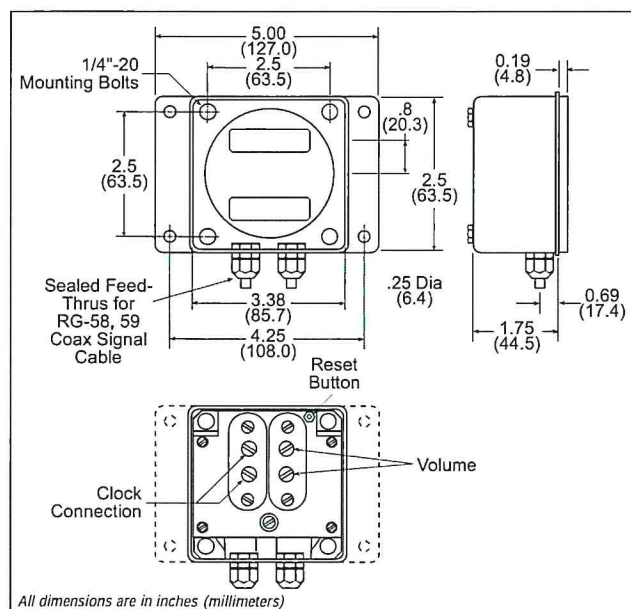

Figure 2 - Mounting the Remote Readout
**Step 1** - Select a location to mount the Remote Readout. It can be mounted near the Oil Change Module or to a bulkhead and can be located up to 200 ft (61 m) from the Oil Change Module (see Figure 2).